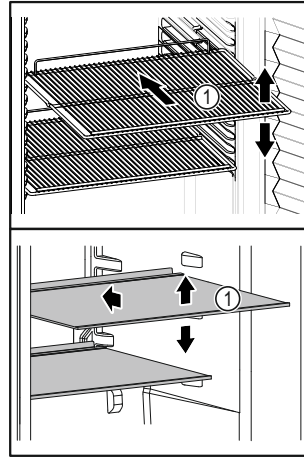

Fig. 67 Example illustration
- If shelves Fig. 67 (1) can be moved, adjust the shelves according to the height.